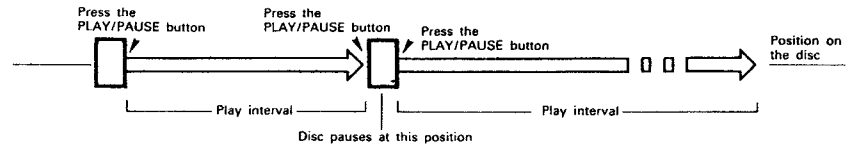

Figure 6
**(7) Description of the PLAY/PAUSE, and CUE Operations**
- The steps through which disc play is performed when the PLAY/PAUSE and CUE buttons are pressed are described with the aid of the following illustrations in Figures 6 through 8.
Pressing the PLAY/PAUSE button starts the disc play, the advancement of which is illustrated by the arrows of Figure 6. Pressing the PLAY/PAUSE button again during disc play causes the play operation to pause, and pressing this button once more causes the disc to be played again.